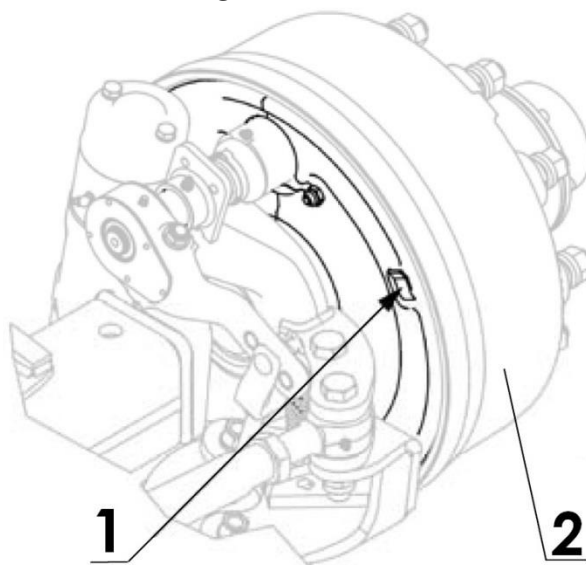

Figure 21. Inspection of brake lining
- Engage and release the service brake and the parking brake. The expander arm (3) (fig. 21) should move and return without any significant resistance and jamming.
Inspection of brake shoe lining wear is done in windows (1) (fig. 21).